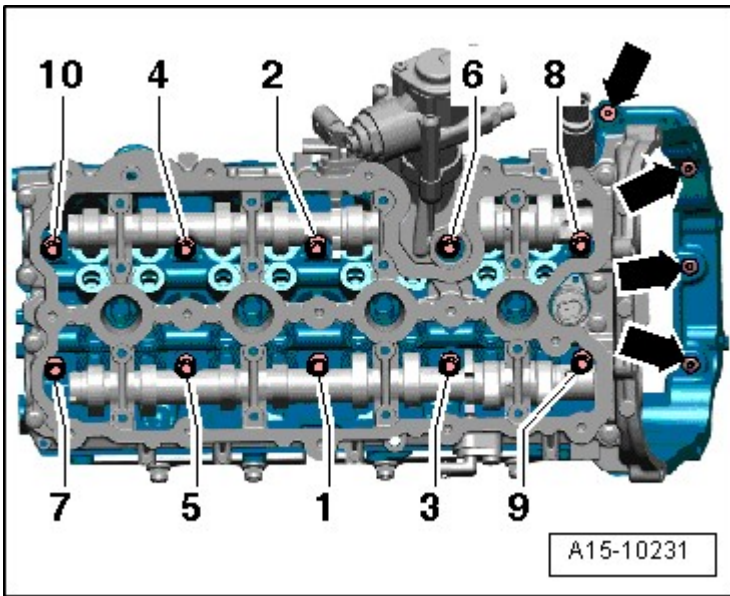

Fig. 15: Cylinder Head Tightening Sequence
- Tightening specification and sequence, refer to **Fig. 15**